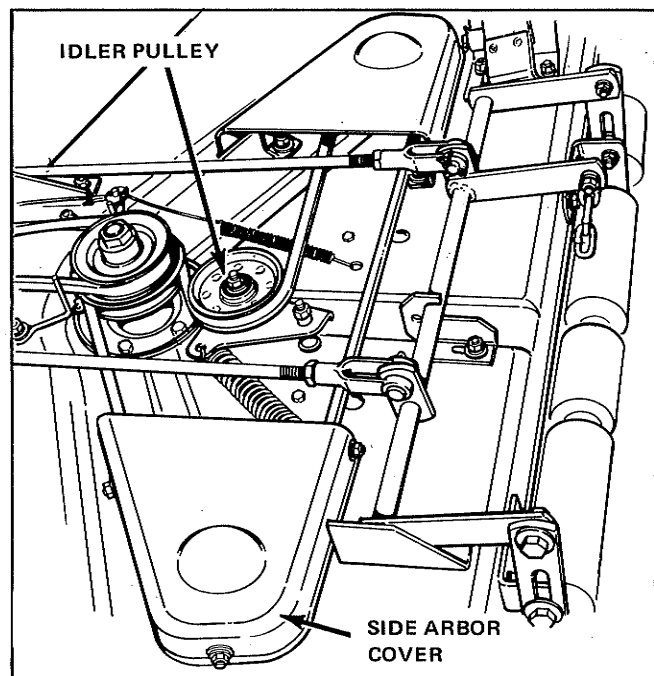

Figure 28. Arbor Belt Replacement
2. Remove the side arbor covers to gain access to the arbor pulleys (figure 28).